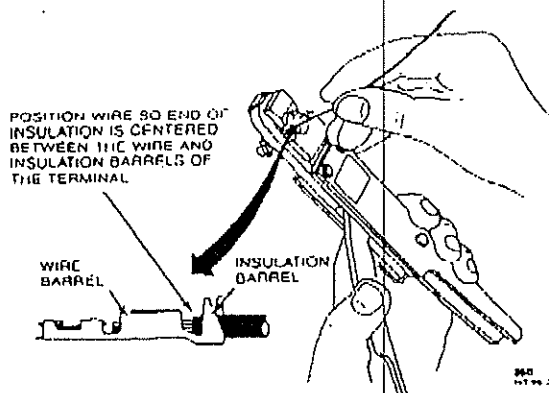

Figure 3. Crimping Terminal to Wire
3. While grasping the lever and the handle portion of the frame, insert a wire so that the end of the insulation is centered between the wire barrel and the insulation barrel of the terminal (see figure 3), then close the hand tool lever completely. This will crimp the terminal to the wire(s).